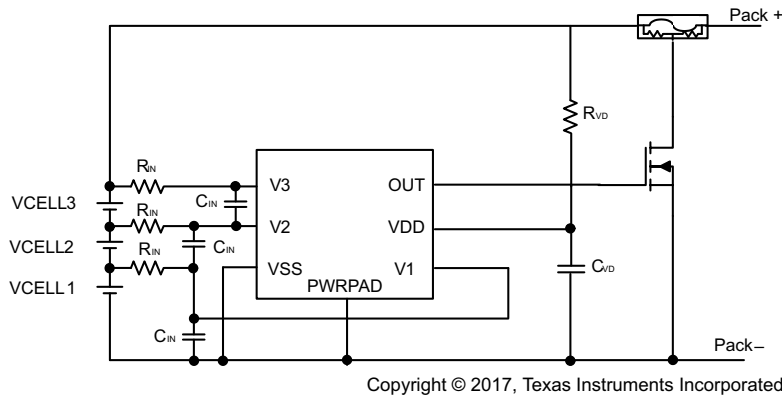

図 9-1. Application Configuration Schematic
Changes to the ranges stated in 表 9-1 impact the accuracy of the cell measurements. 図 9-1 shows each external component.
3. To connect to the device, follow the application configuration schematic (see 図 9-1).